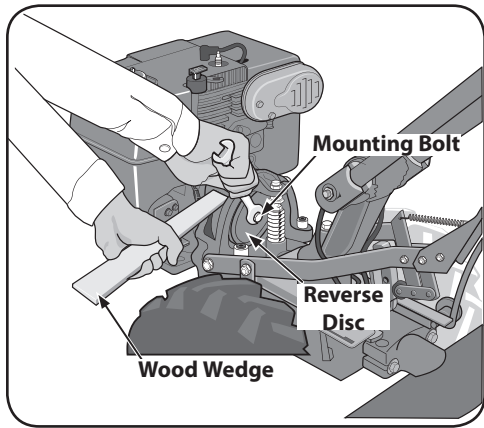

Figure 5-30
3. Use a 5/16" wrench to loosen the mounting bolt shown in Figure 5-30. Remember to immobilize the pulley with the wood wedge while loosening the bolt. If necessary, pry the disc from the pulley with the tip of a screwdriver. Back the bolt out as far as possible. Then angle the disc a little to remove it. Bring the bolt and lockwasher along with the disc. Installing a new Reverse Disc.